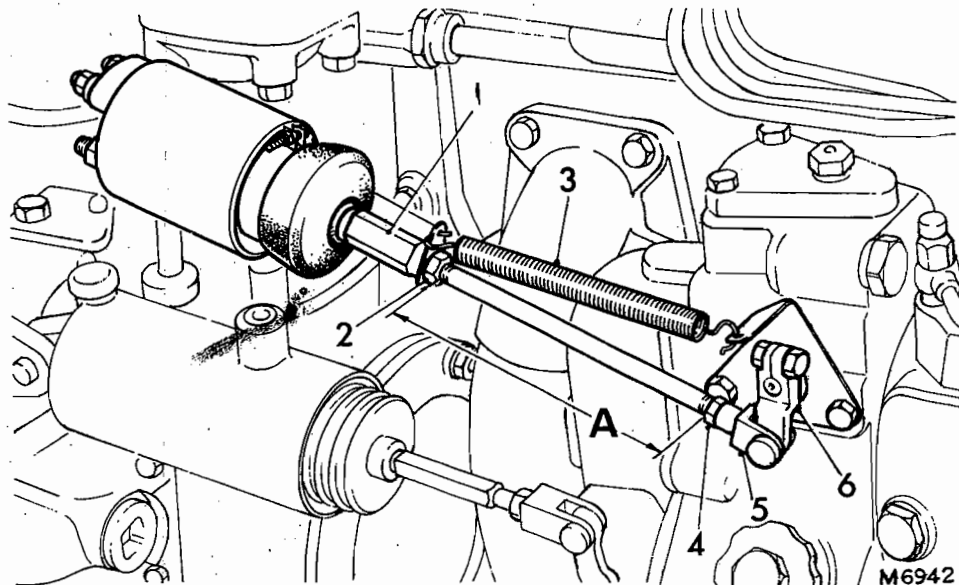

FIG. 10. ENGINE STOP SOLENOID AND LINKAGE
Note: If it is necessary to remove the plunger, note distance between locknuts, dimension 'A' Fig. 10, first. Plunger can then be released by slackening locknut (4) and unscrewing plunger using an open ended spanner on hexagon (1)
1. Check that fuel pump lever, Fig. 10, is hard against stop with solenoid de-energised. If not, this may be due to incorrect adjustment of link allowing solenoid plunger too much travel.